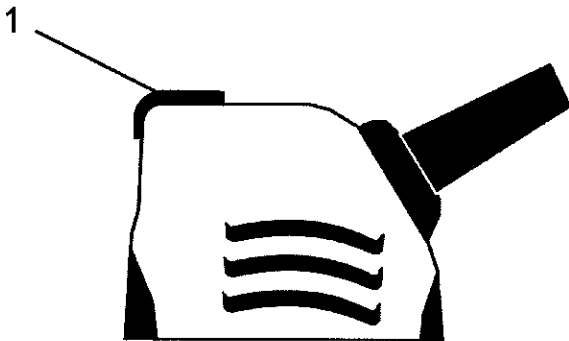

Fig. 1
This cutting tool is equipped with a sliding ON / OFF switch (1) located on the side of the tool (see Fig. 1).